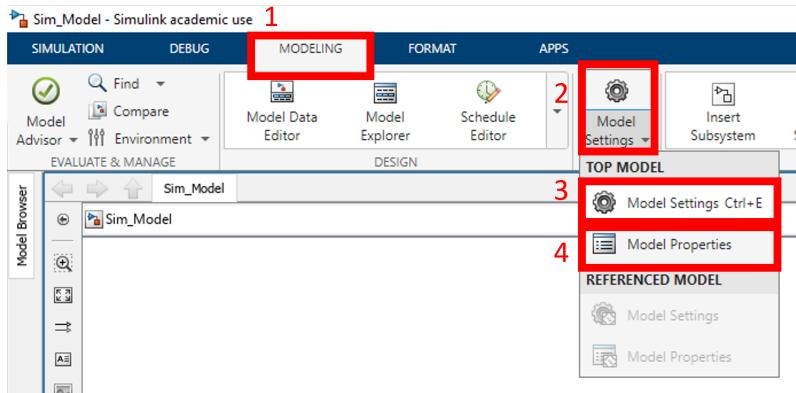
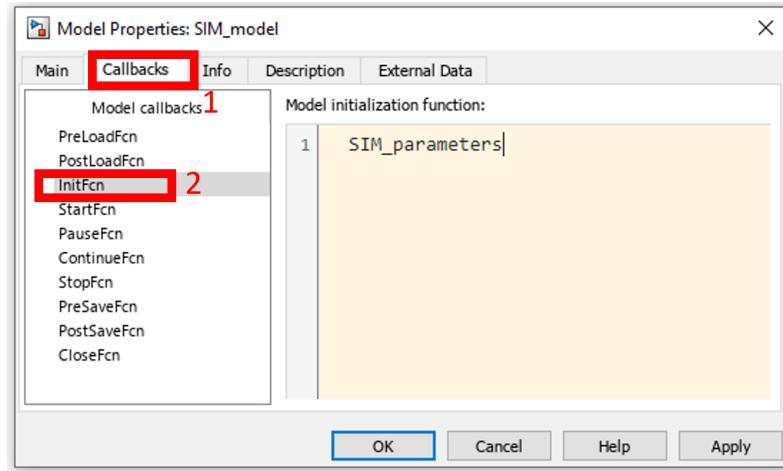

Figure 1: Open Model settings
Figure 3: SIMULINK callbacks
4. Open “MODELING” ribbon and “Model Settings”. (Please follow **steps 1-3** in Figure 1)
Please follow **steps 1,2, and 4** in Figure 1 to open Model Properties. Then, follow **steps 1 and 2** in Figure 3 and add the SIM_parameters.m file in Callbacks→InitFcn as *SIM_parameters*.